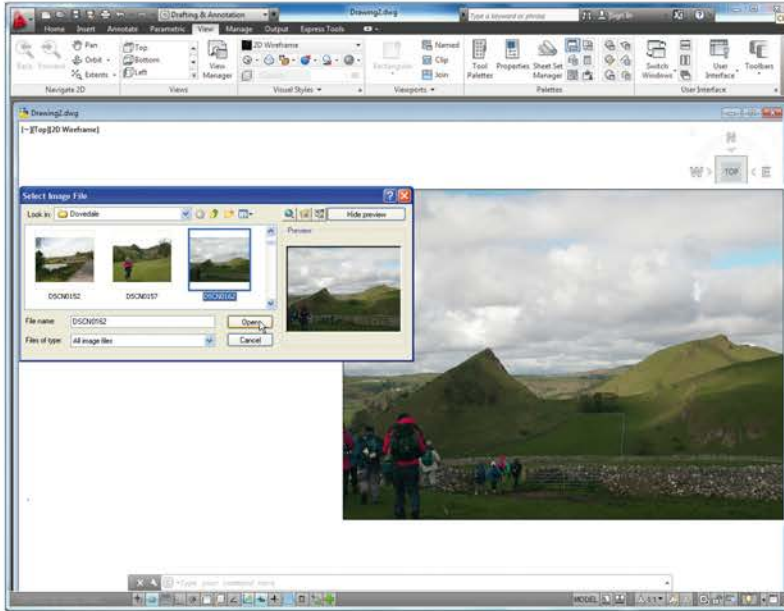

Fig. 14.30 Exercise 3 – example
3. Click **Image . . .** in the **Reference** panel and insert a **JPEG** image (*.jpg file) of a photograph into the AutoCAD 2017 window. An example is given in Fig. 14.30.